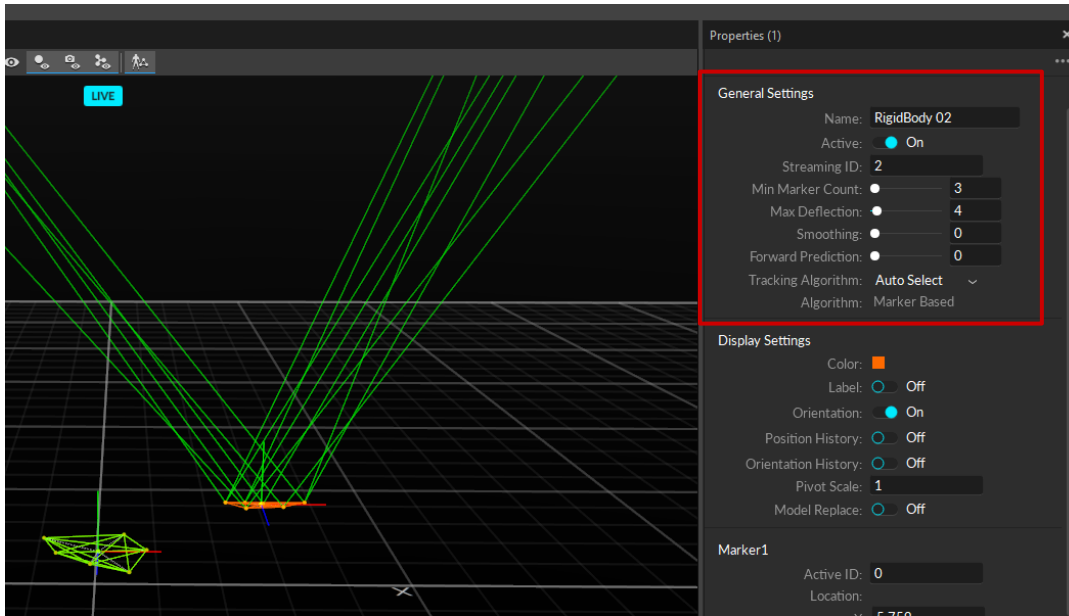

Figure 13. Exporting rigid body to a trackable file
13. The properties pane should now display the second rigid body's properties. Ensure that the streaming ID is set to 2 (default) as shown in Figure 13.